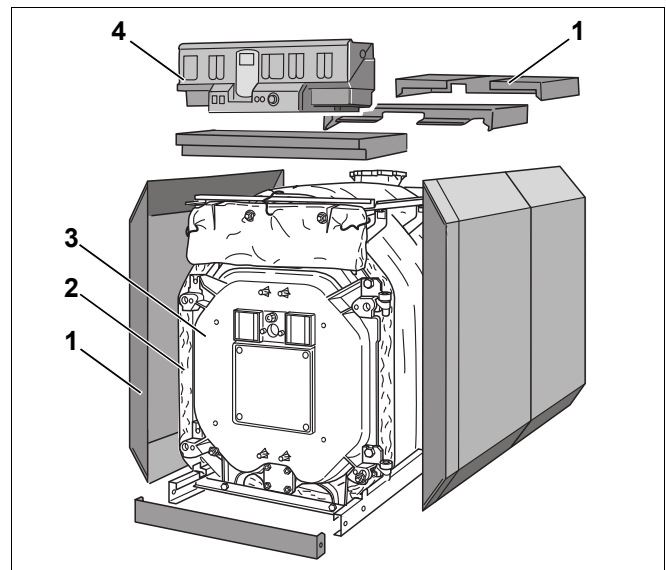
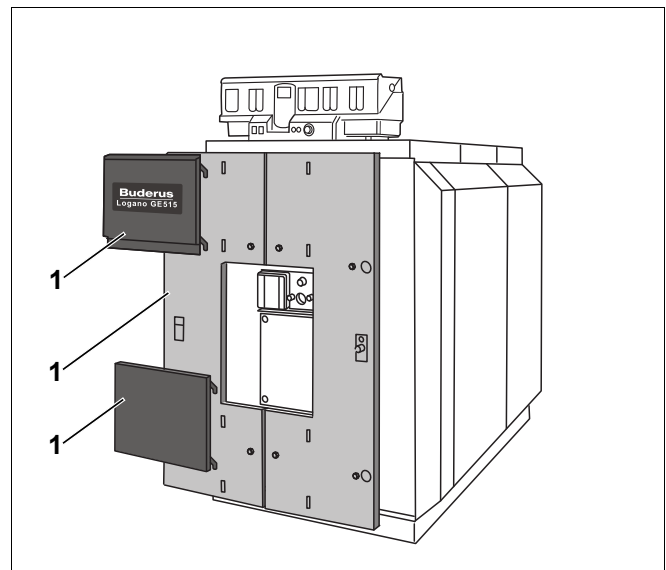

Fig. 1 Logano GE515 oil- and gas-fired special boiler
Fig. 2 Logano GE515 oil- and gas-fired special boiler
- Boiler block (Fig. 1, [3]).
- Boiler shell (casing, Fig. 1 and Fig. 2, [1]), thermal insulation (Fig. 1, [2]).
- Control device (Fig. 1, [4]).